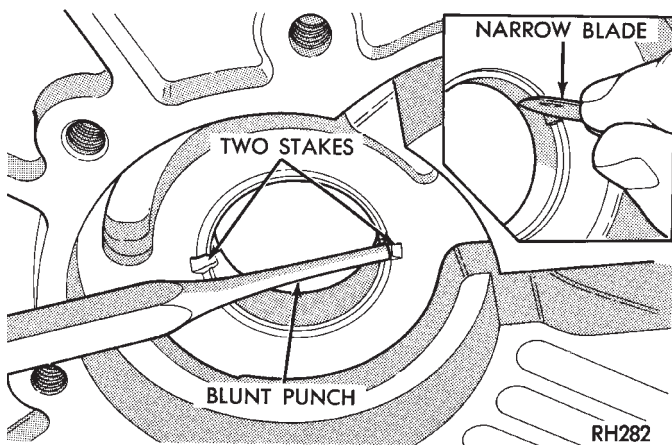

Fig. 127 Staking Oil Pump Bushing
(3) Stake new pump bushing in two places with blunt punch (Fig. 127). Remove burrs from stake points with knife blade afterward.